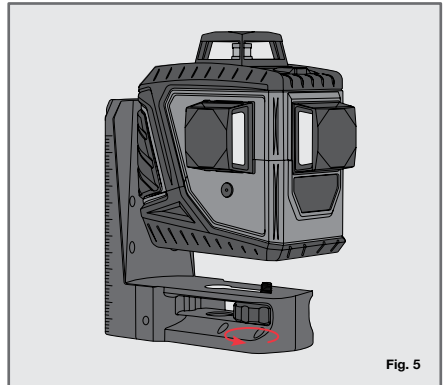

Fig. 5
- Attach the laser level to the mount using the **thumb screw** (Fig. 5).